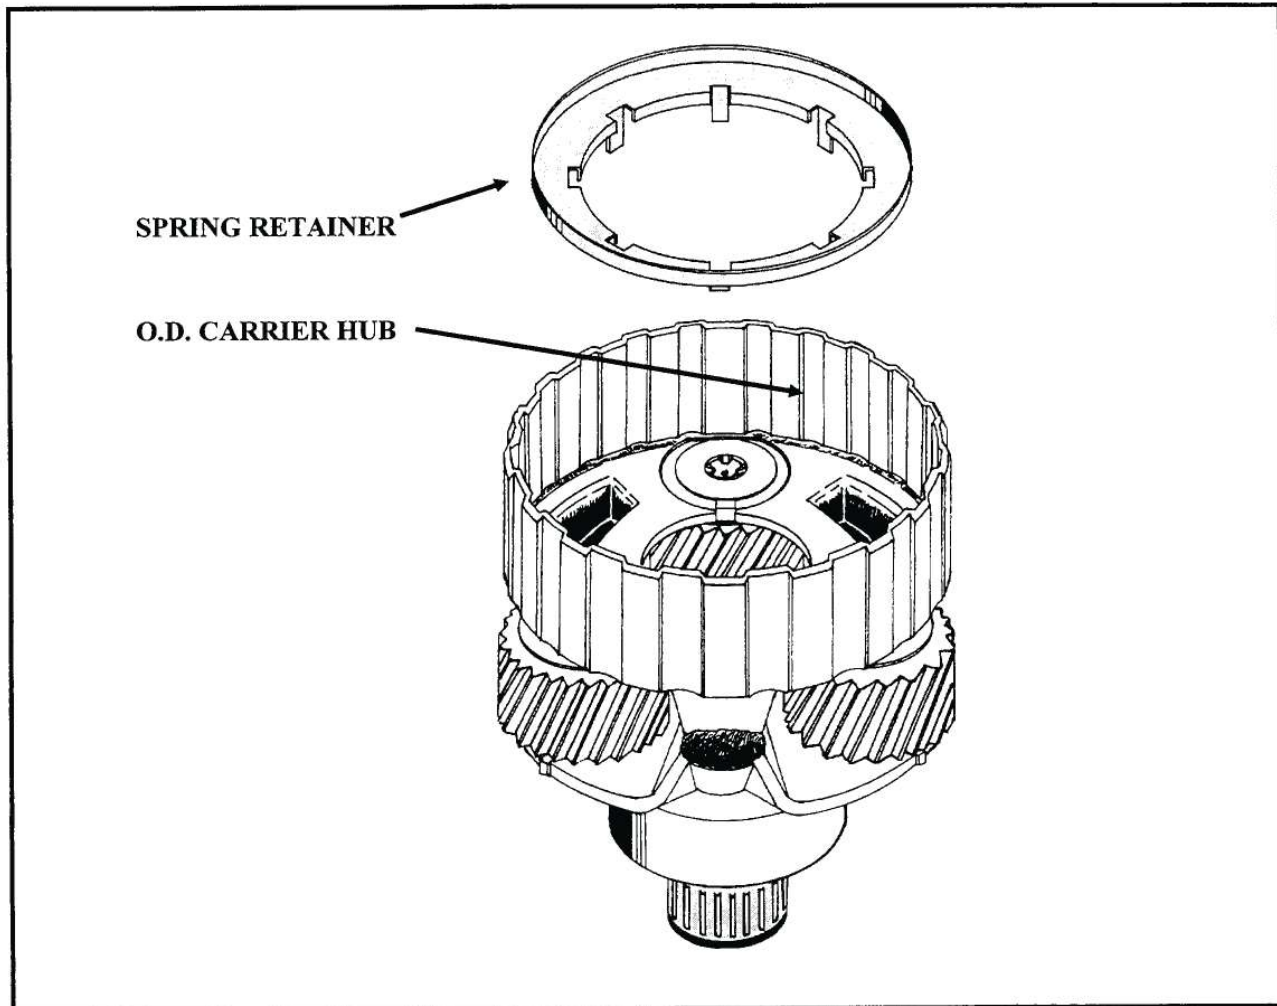

Figure 16
- A. Poorly supported overdrive planetary carrier, allowing the inside diameter of the hub on the overdrive carrier to contact, and turn in a twisting motion, the overrun clutch spring retainer. This will destroy the retainer and return springs in a very short period of time (See Figure 16). **NOTE:** The dimension between the outside diameter of the overrun clutch spring retainer, and the inside diameter of the overdrive carrier hub, is critical. (See Figure 16).